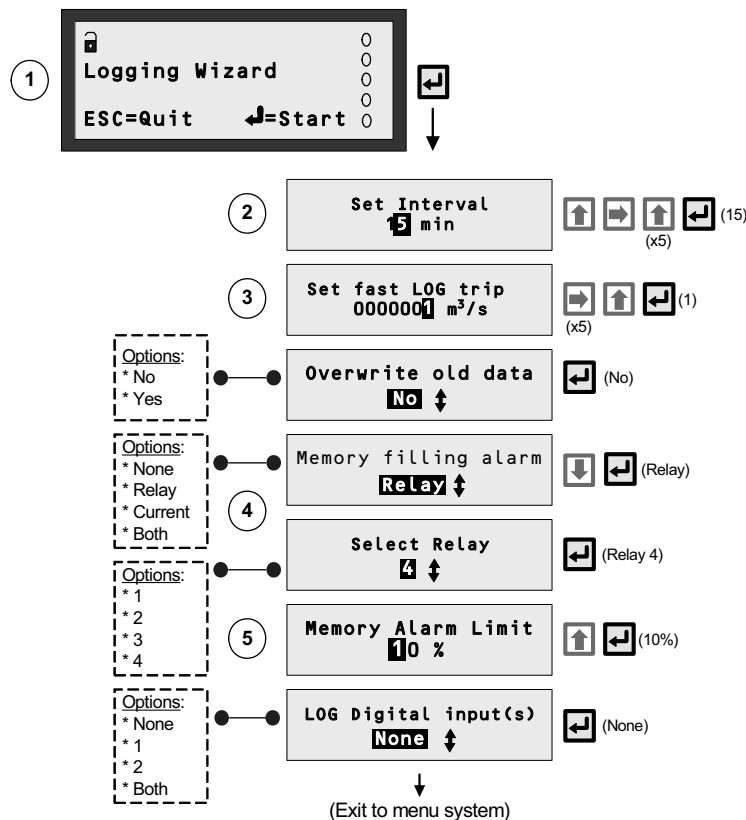

Figure 21: Logging Wizard – Logging of flow measurements
3. Work through the “Duty” Wizard prompts (Figure 21) until completion; this occurs when the menu system re-appears. Keypad hints, for the illustrated Wizard sequence on the next page, are provided alongside the prompts. If applicable, adapt the example to suit your application.
- ① Press the yellow (**ENTER**) button *once*
- ② Set the logging interval to once every 15 minutes (see **P590**)
- ③ Set Fast Log Mode to activate at 1 m³/s or more (see **P591**). Units are dependent on PV units (**P200**).
- ④ Relay 4 is to activate when there is a low memory condition (see Section 5.6.4)
- ⑤ Low memory condition when memory is at 90% of capacity; i.e. 10% remaining.